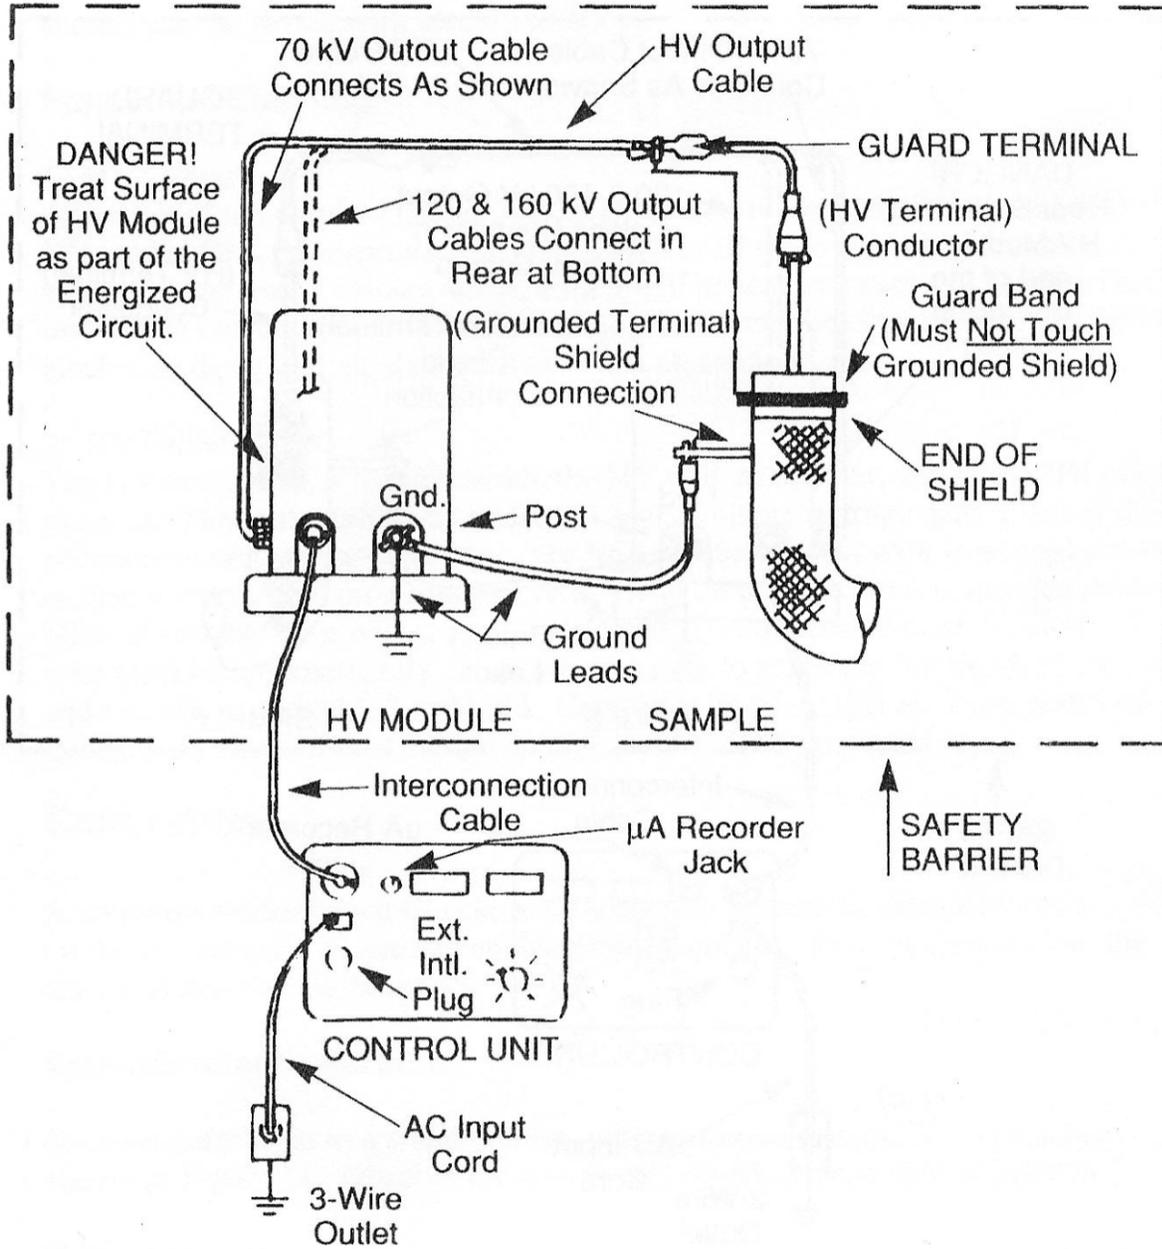

Figure 8: Test Setup for Typical Cable Tests (With Guarding)
5. Occasionally when measuring a test sample the leakage current of interest is masked by a parallel path. This is often encountered when measuring the leakage current of a cable. The value of current along the leakage path from the conductor over the insulation surface to ground may be greater than that within the major length of cable. Under such conditions, the guard feature of the test set is useful in excluding the undesired surface leakage current. This is accomplished by forming an intercepting electrode around the outer insulation surface between the conductor and the ground shield. The electrode may be made by tightly wrapping bare wire or a conductive band around the insulation surface close to ground. The electrode should then be connected to the guard terminal of the high-voltage output cable. Figure 8 illustrates this guarding. It should be noted that the guard circuit is only a few volts above ground. The exposed shield connection on the output end of the HV output cable is at guard potential and must not be grounded.